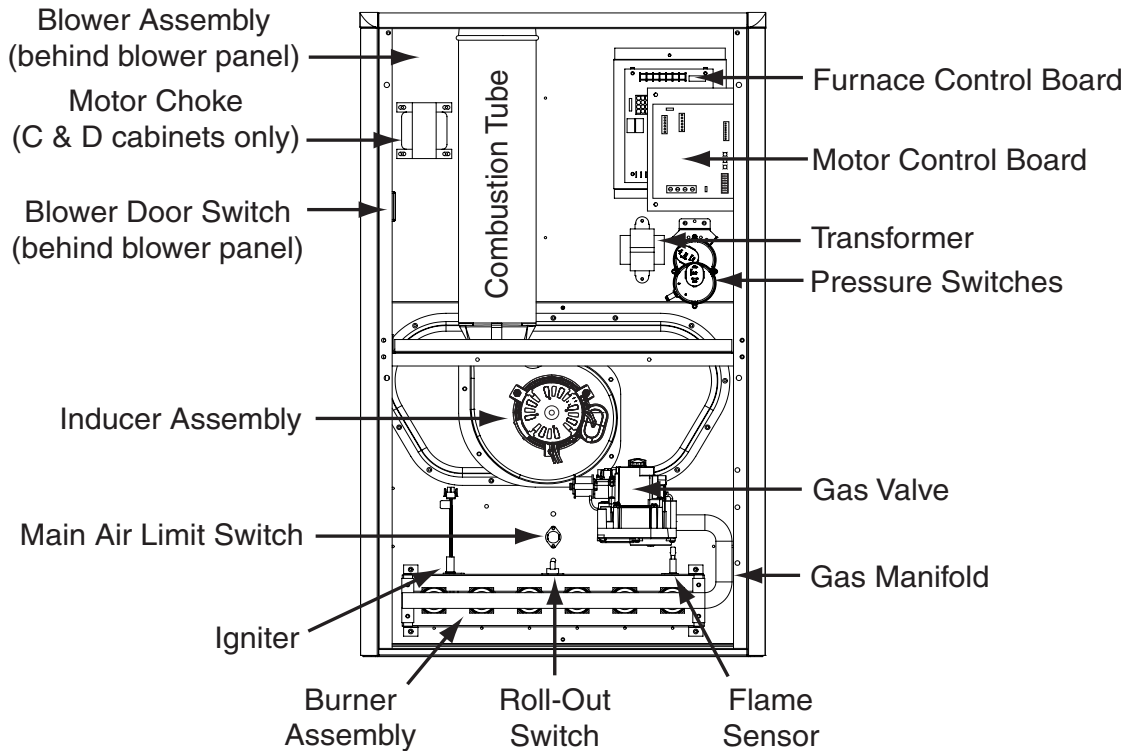

Figure 29. Component Locations
- If the Inducer Blower is operating, and items above have been verified, check the Blower Limit Switch (Figure 29, \(page 42\)) and reset if necessary.
- If the furnace still doesn't operate, check the Flame Roll-out Switches (Figure 29) and reset if necessary.
The descriptions below are various functional components that affect the operation and shutting down of this furnace. Some of these components and their locations are shown in Figure 29, \(page 42\). If any component of the furnace must be replaced, use only factory authorized replacement parts specified in the Replacement Parts List provided online.